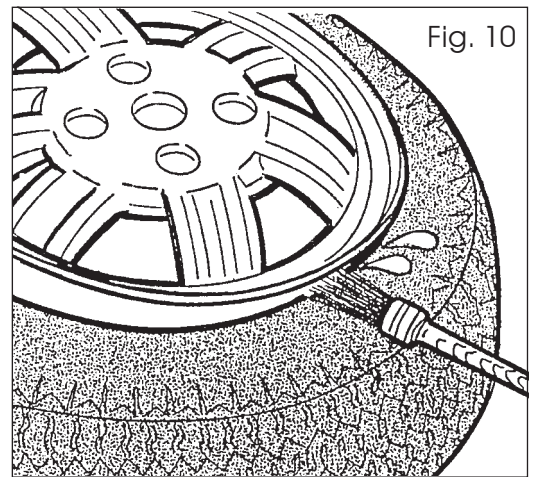

Fig. 10
- ❑ Liberally apply tire manufacturer approved rubber lubricant to the entire circumference of both beads to facilitate mounting/demounting and to prevent damage to the beads (Fig.10).